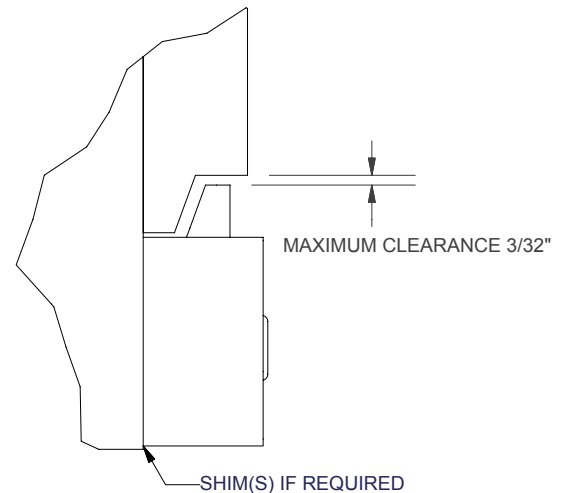

Figure 3-4, Lower Hook Clearance
6. **Always** back down ramps or inclines. Driving forward down a ramp or incline with a clamped load will lessen the stability of the truck. (Figure 3-4)
9. Install the bolt-on lower hooks. Inspect clearance to the carriage on lower hooks. Adjust the lower hooks for a maximum clearance of 3/32" (see Figure 3-4). Tighten the bolts to 40-50 ft-lbs.